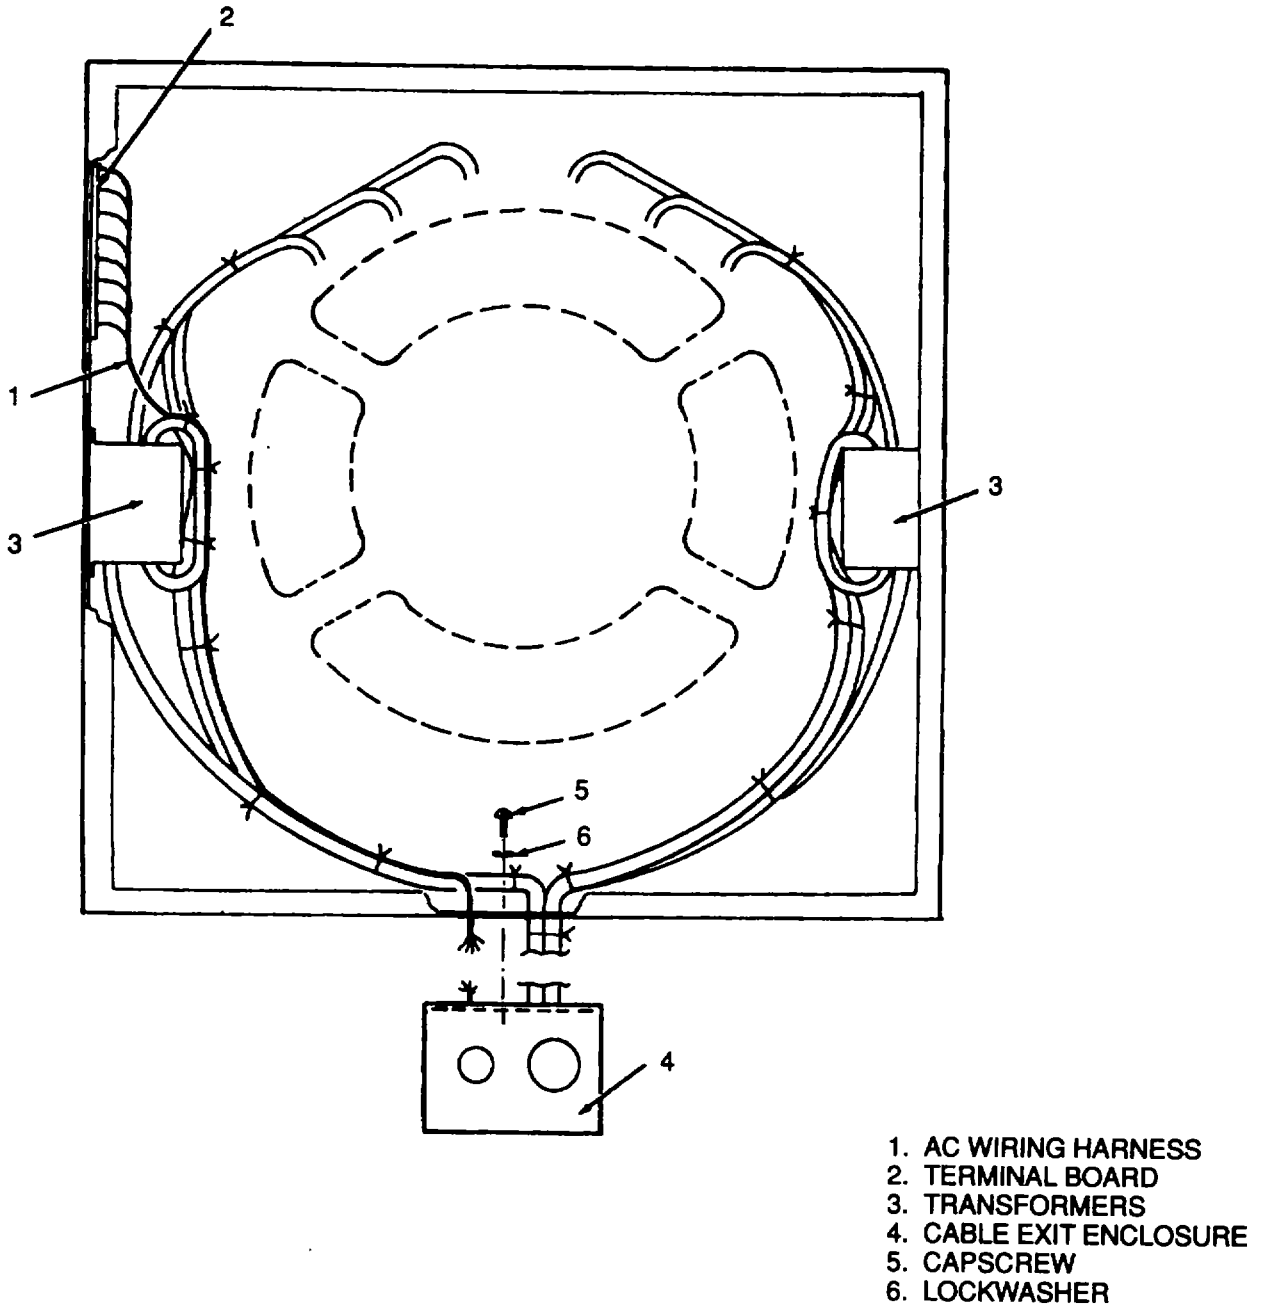
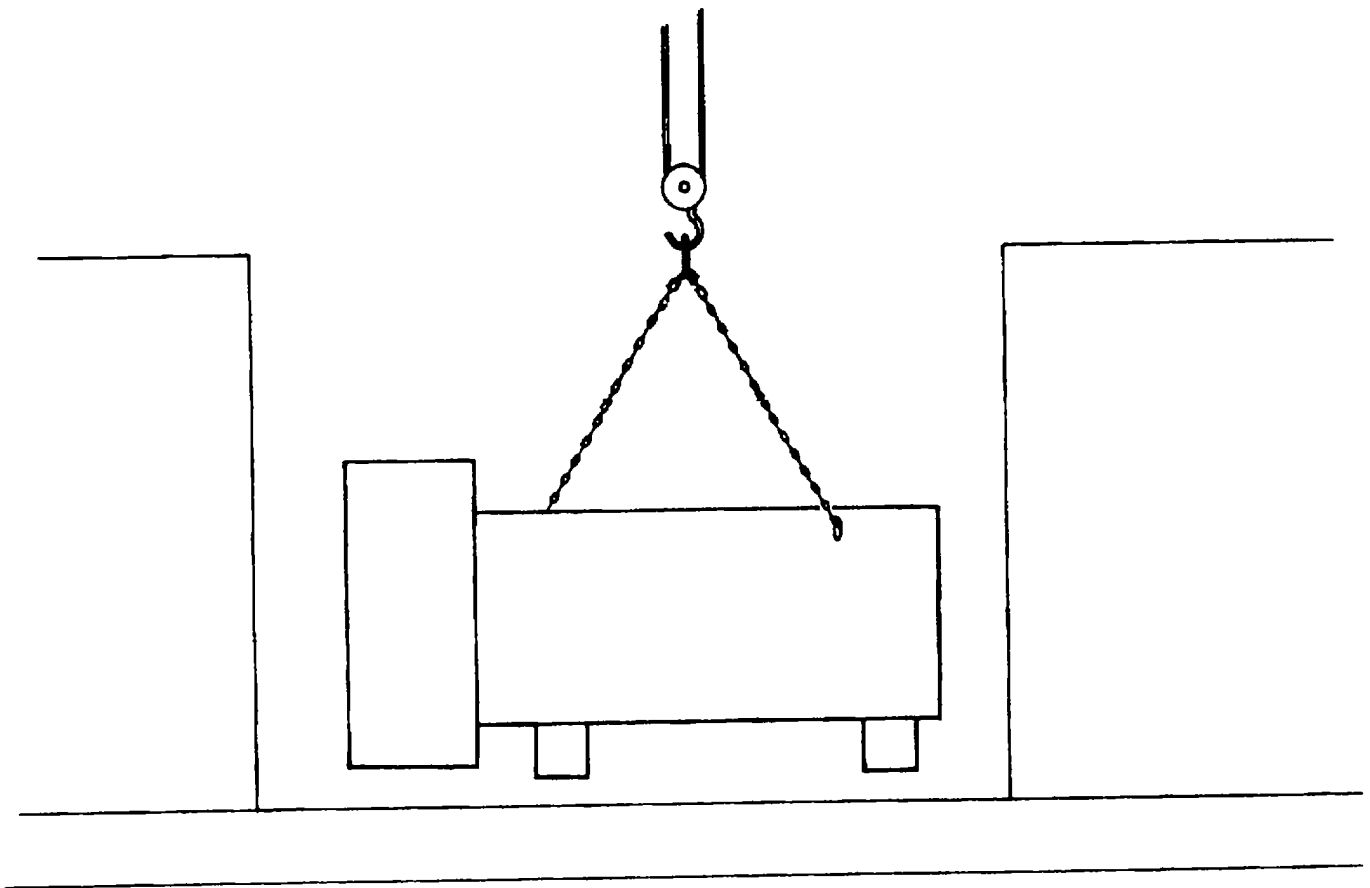

Figure 2-8. Conduit Box Assembly
Figure 2-9. Generator G1, Lifting
- (5) Remove capscrews (5, Figure 2-8) and lockwashers (6), and remove generator cable exit enclosure (4).
- (6) Disconnect cannon plug on battery charger BC1.
- (7) Rig overhead crane or hoist with minimum load capacity of 6,000 pounds (2722 K) and minimum height clearance of 150 inches (3810 mm). See Figure 2-9 and connect the lifting rig to lifting lugs on generator housing. Take up slack from hoist but do not lift generator at this time.
- (22) Rig the generator for lifting with a hoist or overhead crane rated for a minimum of 6,000 pounds (2722 kg) and a minimum height clearance of 150 inches (3816 mm) (See Figure 2-9). There are two lifting brackets welded to the top of the generator. Use locking lifting hooks on the brackets and raise the hoist to remove slack from the slings and lifting chains, but do not lift generator at this time.
- (37) Check the exciter air gap again in accordance with step (35), above.
- (38) Install generator cable exit enclosure (4, Figure 2-8) with hexagon head capscrews (5) and lockwashers (6).
- (1) Disconnect load cables from output terminals, place on safety stands and tag output terminal to ensure generator set is not connected to load bus during generator removal.
- (2) Set maintenance lockout switch to MAINTENANCE and safety tag.
- (3) Disconnect cable from UTILITY POWER receptacle and safety tag UTILITY POWER receptacle to ensure cable is not connected during generator removal.
- (4) Remove batteries in accordance with paragraph 3-9 of the Operator and Organizational Maintenance Manual.
- (5) Remove the conduit box cover assembly from the conduit box assembly. See Figure 2-7. Remove hexagon head capscrews (5, Figure 2-8) and lockwashers (6) securing generator cable exit endosure (4) to generator cabinet.
- (10) Disconnect the ac wiring harness (1, Figure 2-8) from the terminal board (2) and the two transformers (3) located in the conduit box assembly. Coil up the wiring harness and lay it in the cable exit enclosure (4) located underneath the conduit box assembly.
- (11) Remove battery charger in accordance with paragraph 4-20 of the Operator and Organizational Maintenance Manual.
- (12) Remove the ac and dc lights and conduits above the generator in accordance with paragraph and 4-35 of the Operator and Organizational Maintenance Manual.